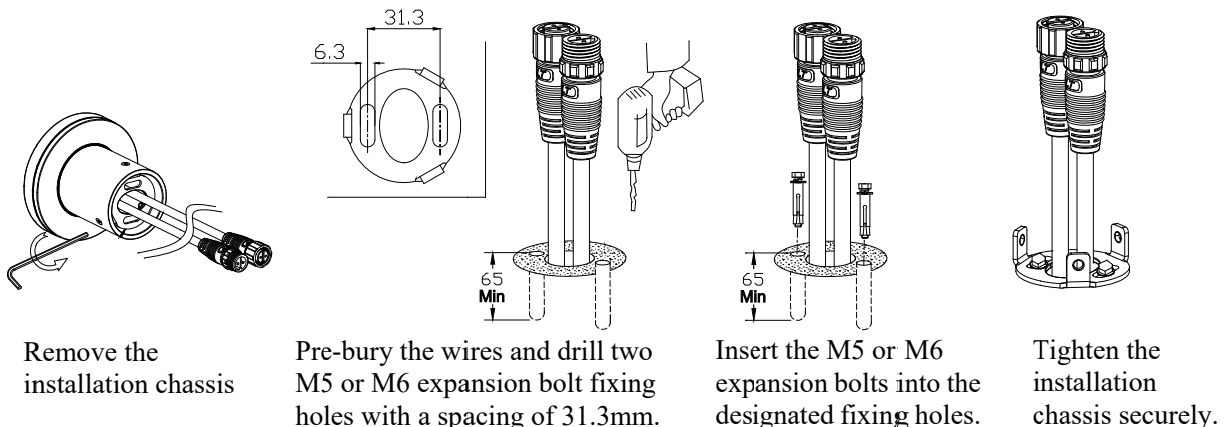

Figure 2
2. Remove the packaging, take out the luminaire, and use an Allen wrench (2.5mm) to loosen the fastening screws on the side of the base to remove the installation chassis. Drill the holes required for the expansion bolts on the installation surface as shown in Figure 2, ensuring that the hole depth is greater than the length of the expansion bolt. Then, thread the pre-installed connection wires (which need to be purchased separately) through the installation chassis. Insert the expansion bolts into the corresponding installation holes and secure the installation chassis.